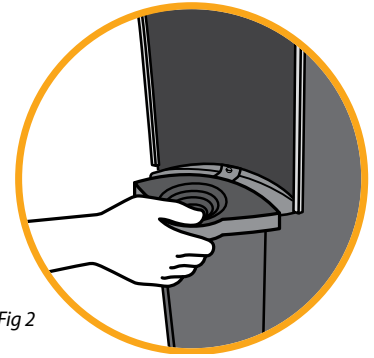

Fig 2
4. Clean the drip tray and grill by emptying the tray and cleaning the tray and grill with dishwashing soap or by placing them on the top rack of the dishwasher (Fig 2).